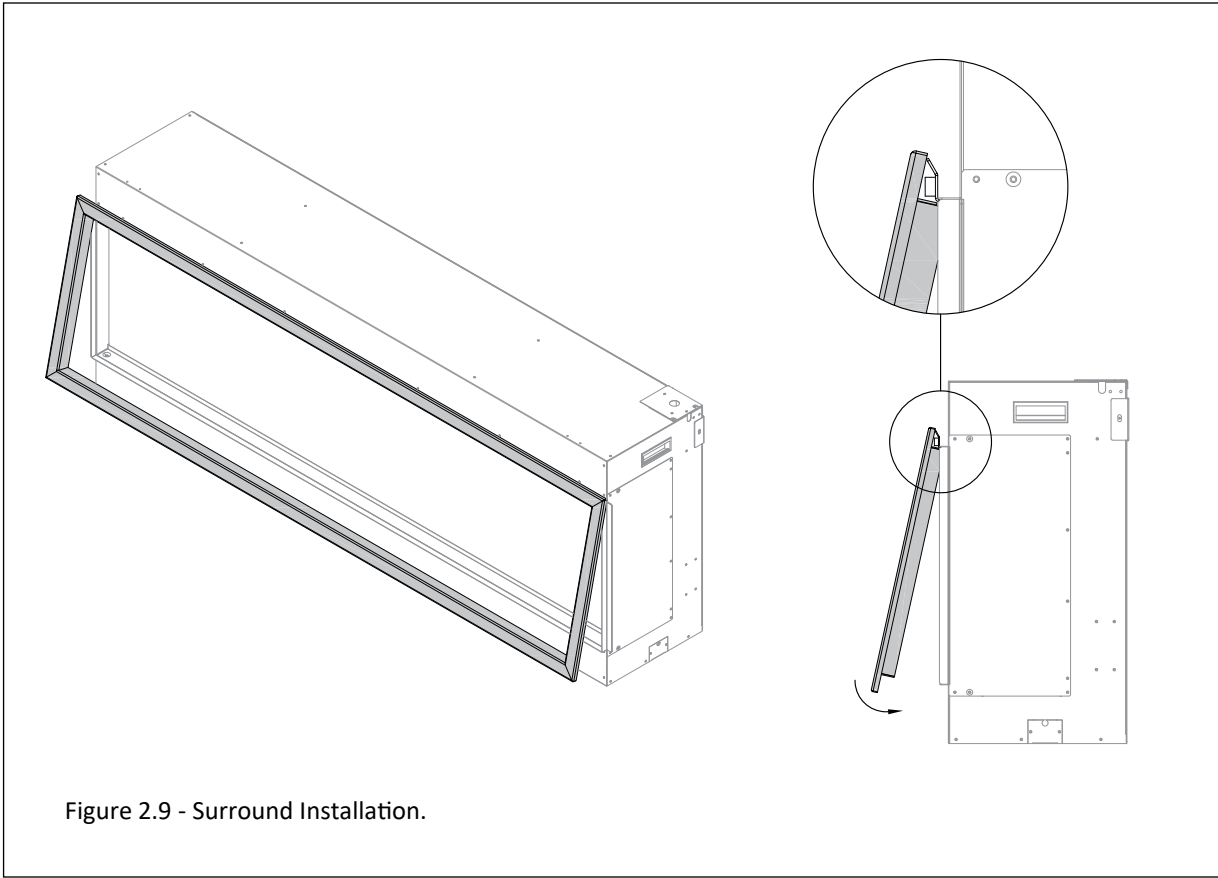

Figure 2.9 - Surround Installation.
4. Install the rectangle surround by hanging the top of the surround on the magnetic hanging brackets as shown in Figure 2.9.